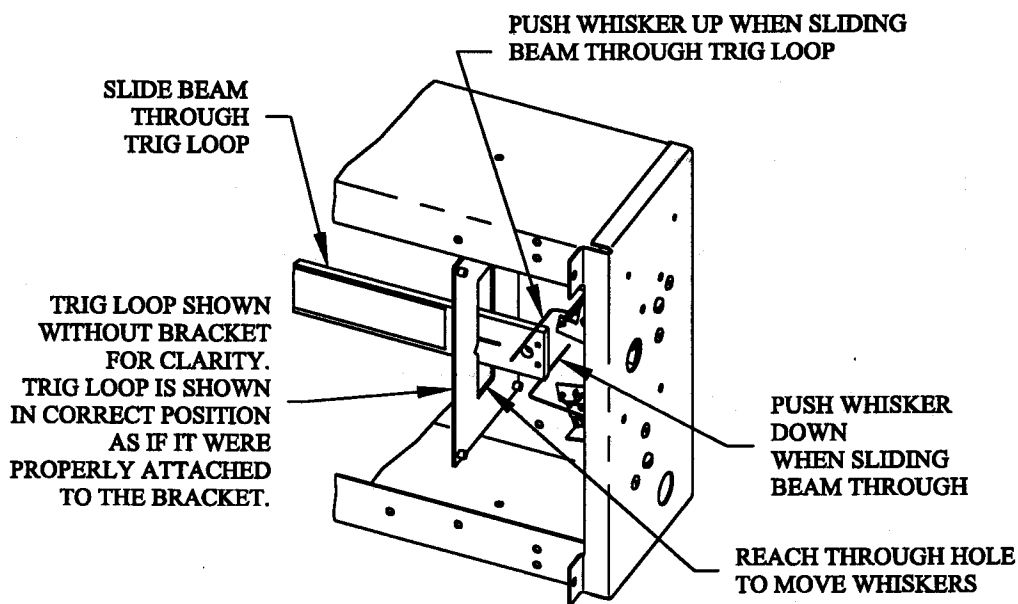
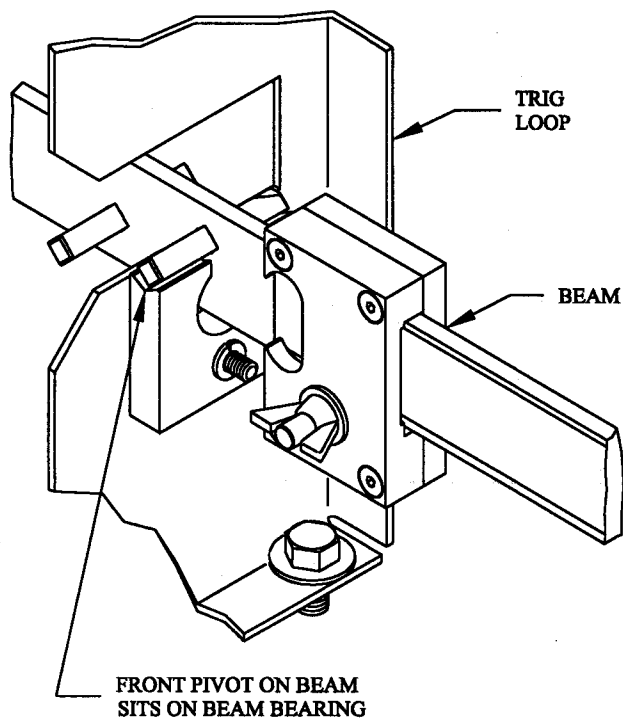
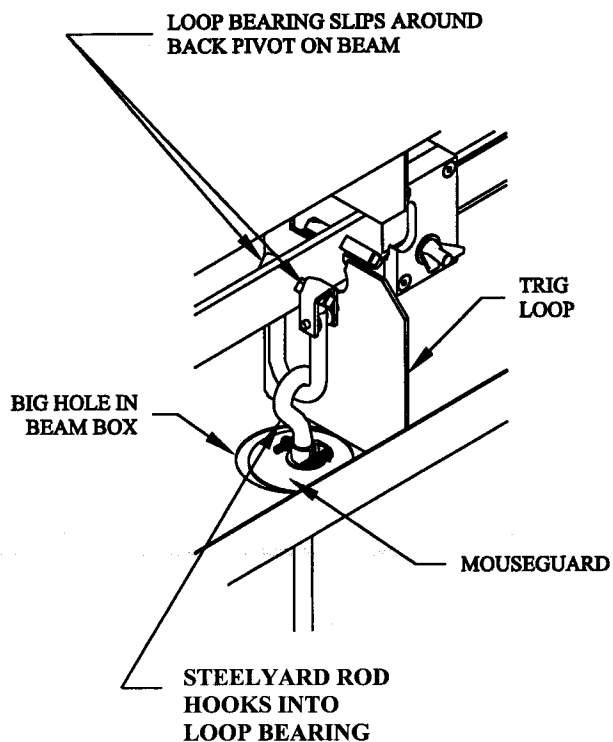

FIG. 9A
FIG. 9B
FIG. 9C
STEP 8. Open the door on the beam box. Notice where the trig loop and beam bearing are; the beam will be placed here. Remove the steelyard rod, beam and loop bearings (2) from the box. See Fig's. 8A & 8B.
STEP 9. Reach through trig loop with fingers and push whiskers up and down so that they are out of the way. While holding the whiskers, slide beam through trig loop. See Fig 9A. Place the front pivot on the beam so that it pivots in the center of the beam bearing. See Fig. 9B. Slip the loop bearing over the back pivot on both the front and backside of the beam. See Fig. 9C. From underneath the beam box, push the steelyard rod up through the big hole (in the beam box) and hook it into the loop bearing. Use the end of the steelyard rod with the mouseguard. See Fig. 9C.